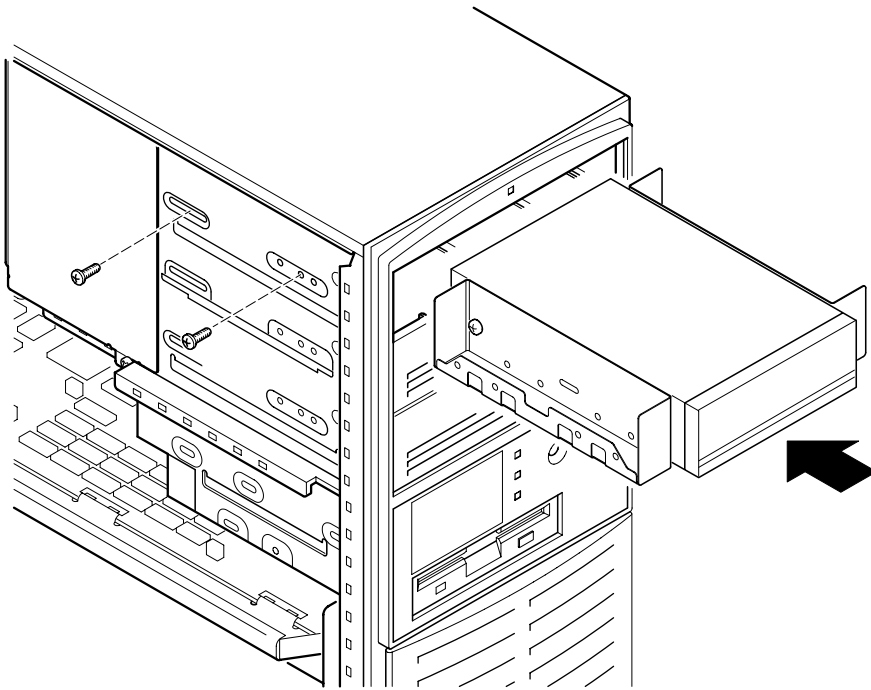

Figure 3-10. Inserting a Device into the Upper Drive Bay
6. Insert the new device into the drive bay from the front (Figure 3-10).